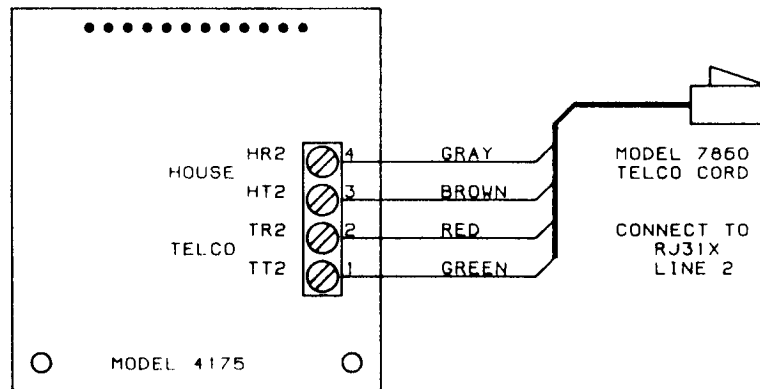

FIGURE 13.4.1A: 4175 CONNECTION
2. Connect the second phone cord as shown in figure 13.4.1A below. (The first phone cord for line 1 should be connected directly to the 2820 as described earlier).